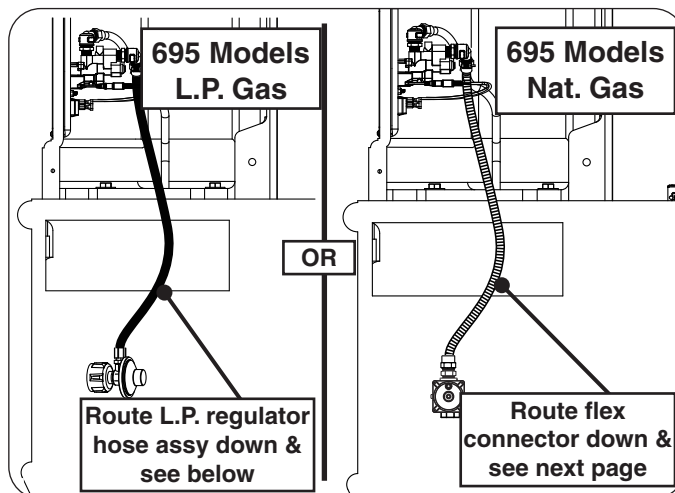

Fig. 26-1 Route L.P. hose OR flex down into hearth
- Locate the flex connector or L.P. regulator hose assembly that is already installed on the rear of the valve assembly. Route it down through the hole in the hearth. See Fig. 26-1.